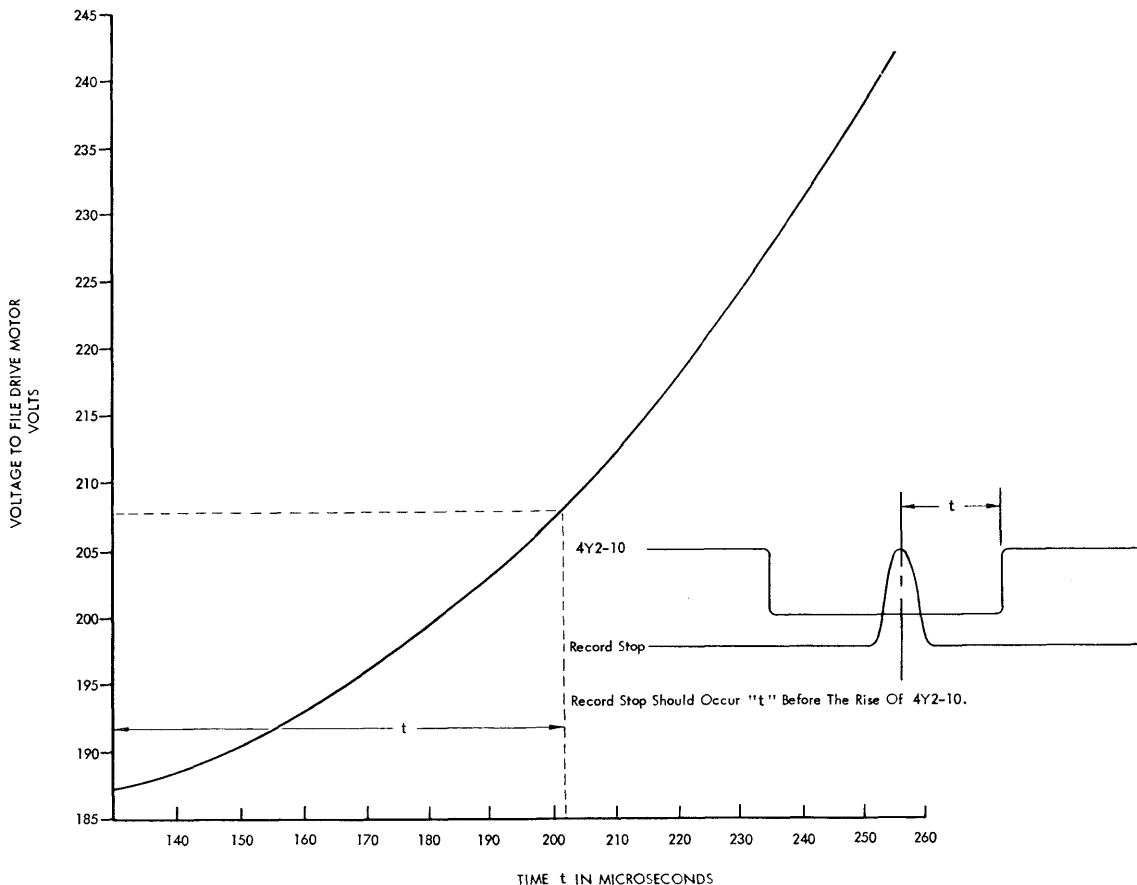

Figure 14. File Speed Interlock
## File Speed Interlock Single Shot (3.01.08) (Figure 14)
4. Using the curve in Figure 14, determine the value "t" for the voltage recorded in Item 1.
8. Adjust the one meg pot between 4Z1-9 and 4Y2-6 (3.01.08) so that the center of the record stop pulse will occur "t" time ahead of the rise of 4Y2-10. Use the "t" value determined in Item 4 (See Figure 14).